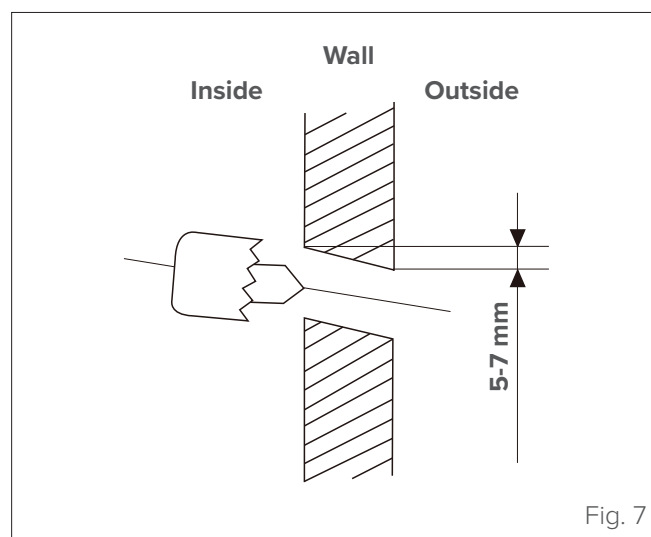

Fig. 7
- 1 Determine hole position according to the position of the mounting plate. To help you choose the optimal position, refer to point “Mounting plate dimensions”. The hole in the wall should have a minimum diameter of 65 mm and a slight downward slope to facilitate drainage (see “Fig. 7”).